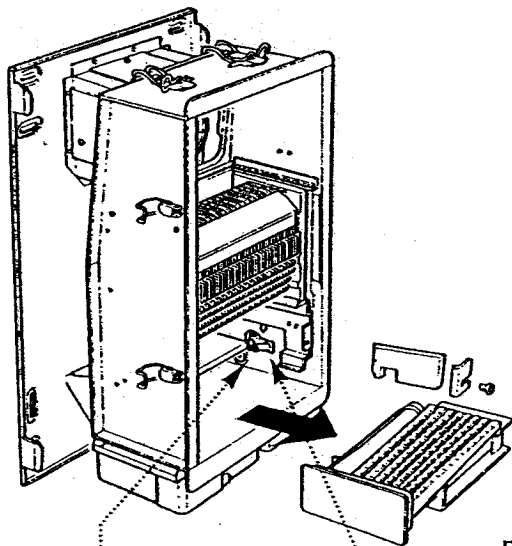

Fig. 113
### 10.10 Burner (Fig. 113)
1. Remove the right hand side insulation carrier bracket by releasing the screw. Remove the side insulation panel (Fig. 113).